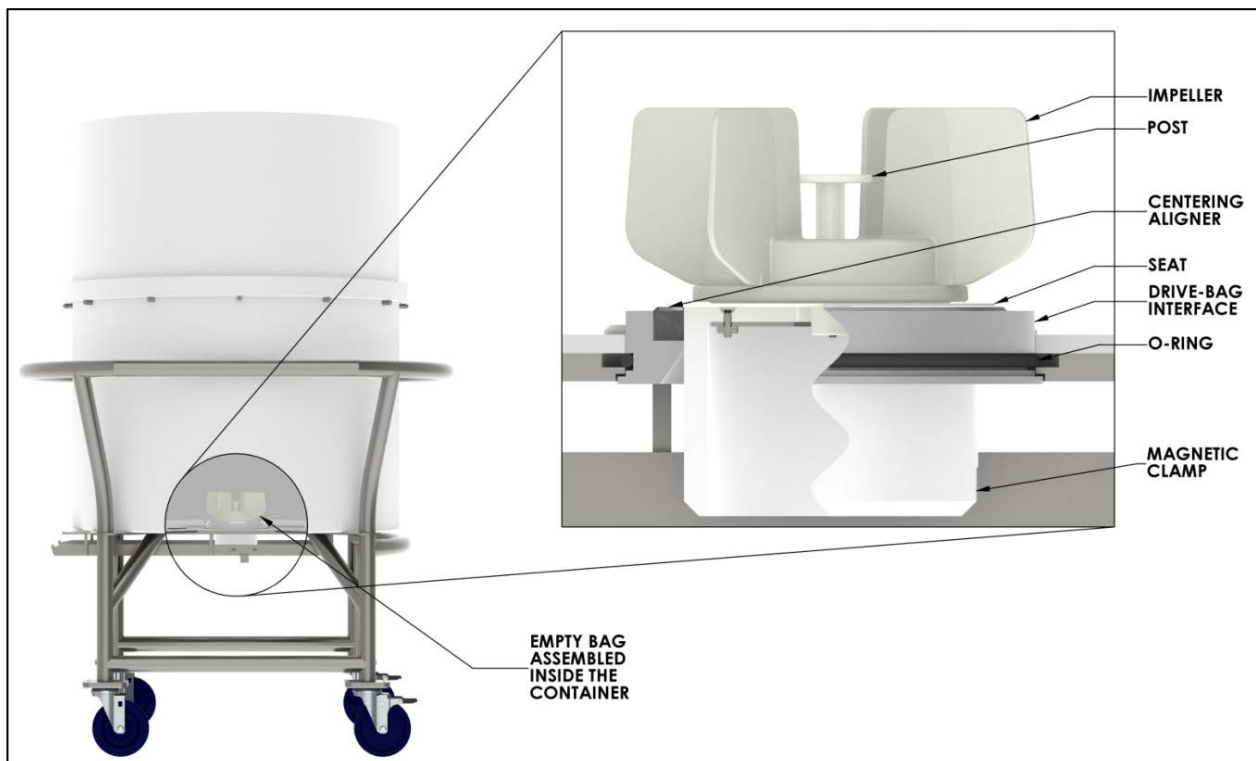

Figure 16: Biocontainer tank assembly with round plastic tank
5. Assemble the centering aligner and magnetic clamp on the impeller on the Allegro mixing biocontainer as shown in Figure 16.